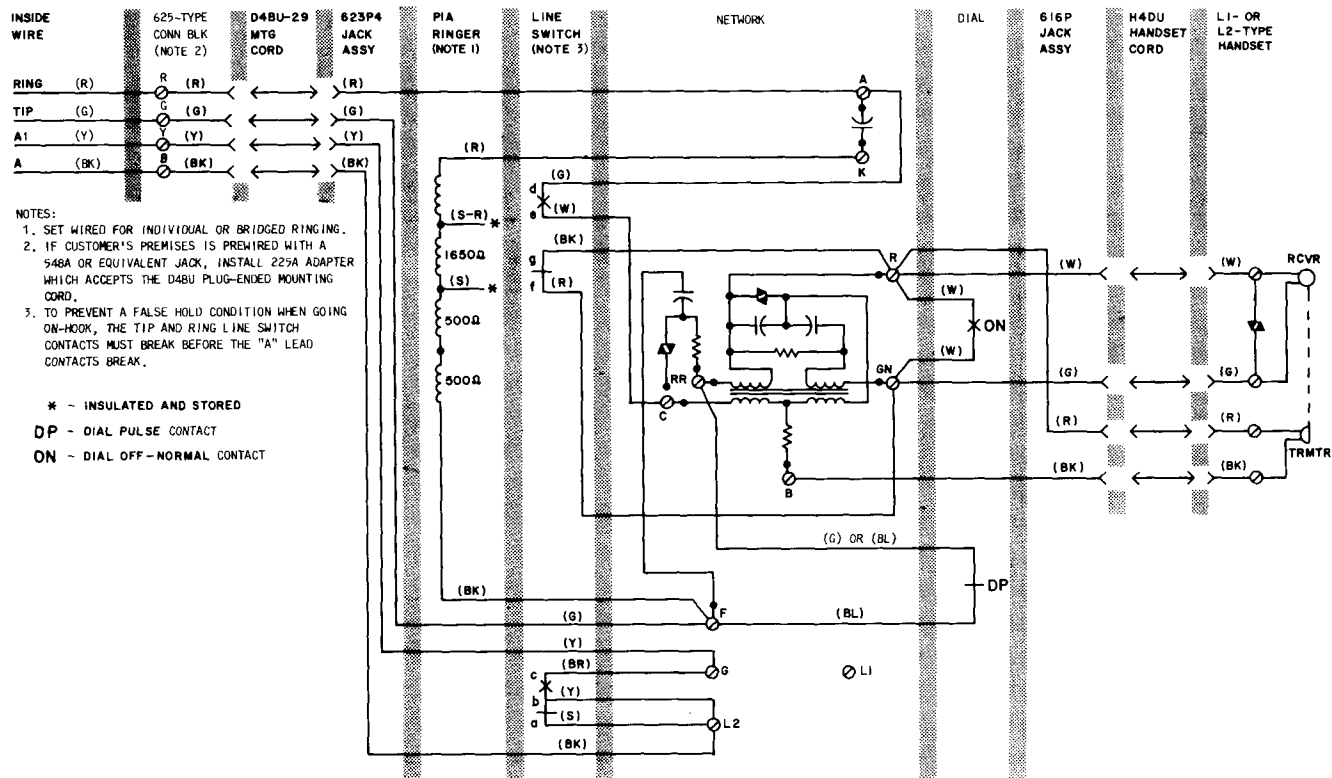

Fig. 4—940-Type Telephone Set Connections, Wired for 1A1 or 1A2 KTS
3.04 Connections for use with 1A1 or 1A2 KTS are shown in Fig. 4. Table C includes necessary wiring modifications required for 1A1 or 1A2 key telephone system use.